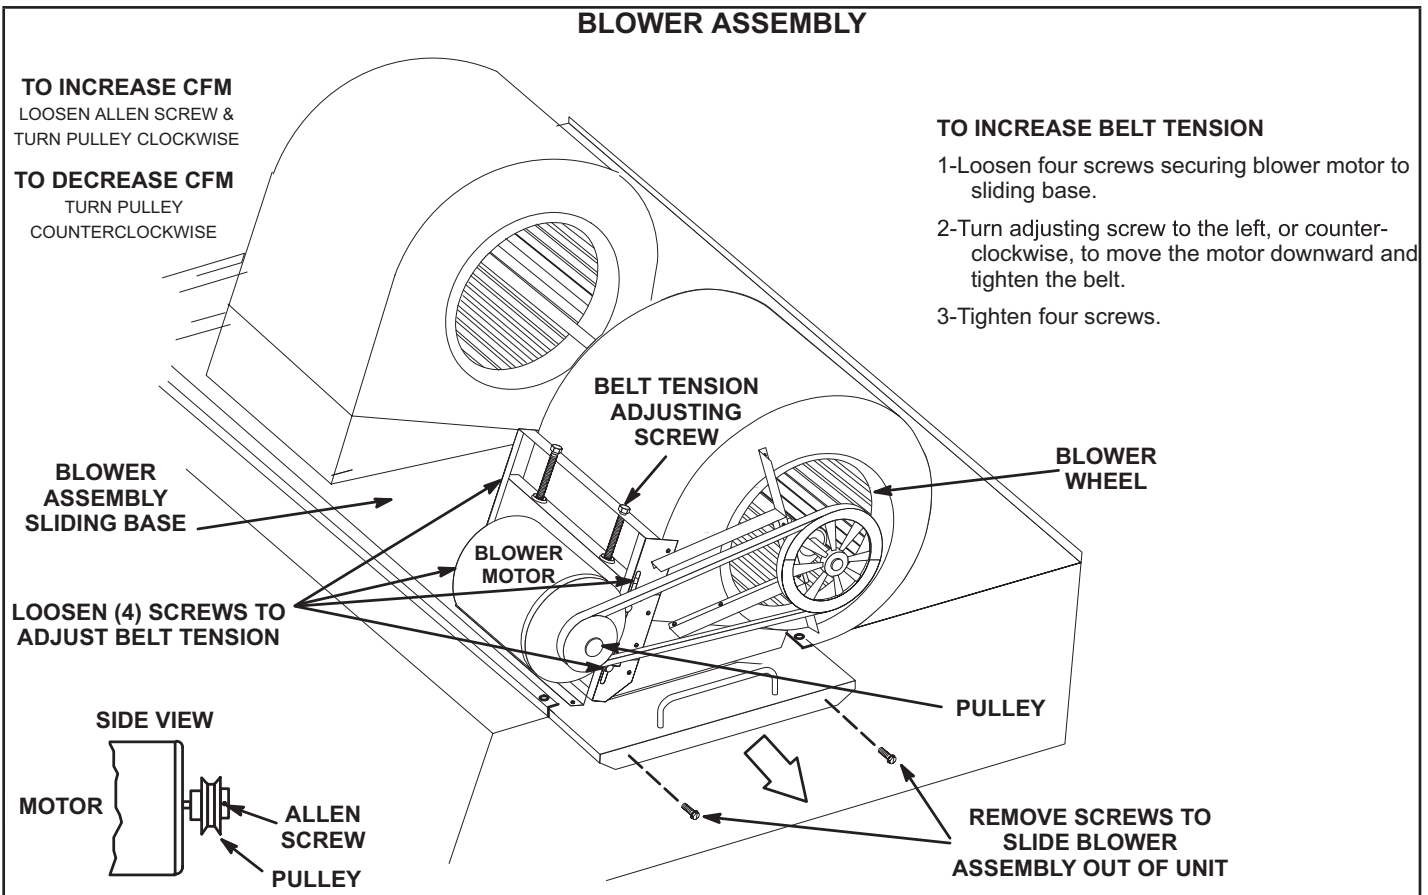

FIGURE 21
- 2- Remove screws on either side of blower assembly sliding base. See FIGURE 21.
- 4 - The blower RPM can be adjusted at the motor pulley. Loosen Allen screw and turn adjustable pulley clockwise to increase CFM. Turn counterclockwise to decrease CFM. See FIGURE 21. Do not exceed minimum and maximum number of pulley turns as shown in TABLE 4.
- 1 - Loosen four screws securing blower motor to sliding base. See FIGURE 21.